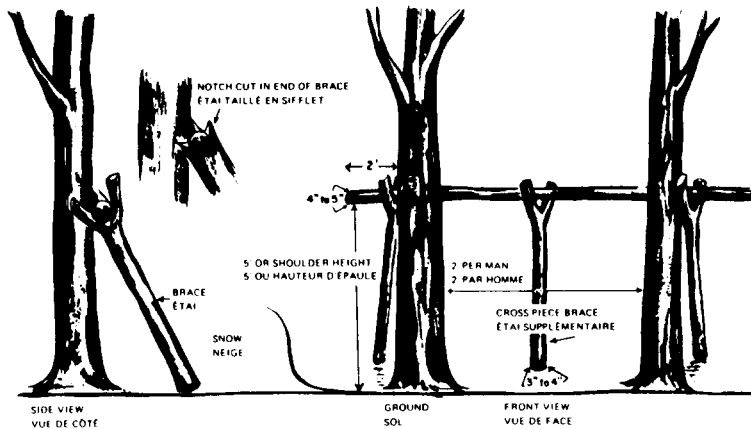

Figure 3-7 Single Lean-to - Stage 1
- b. Place on the top crosspiece. This should be four to five inches thick at the butt end and about four feet longer than the distance between the uprights. This top crosspiece should be about five feet or shoulder height off the ground and on the roof side of the lean-to. It can be placed in a crotch of a tree or propped up (see Figure 3-7). If the distance between the trees is over 15 feet, then the crosspiece should be braced in the centre. Use a pole three to four inches in diameter and about six feet long. Make sure that the bottom of the pole is on solid footing (see Figure 3-7).